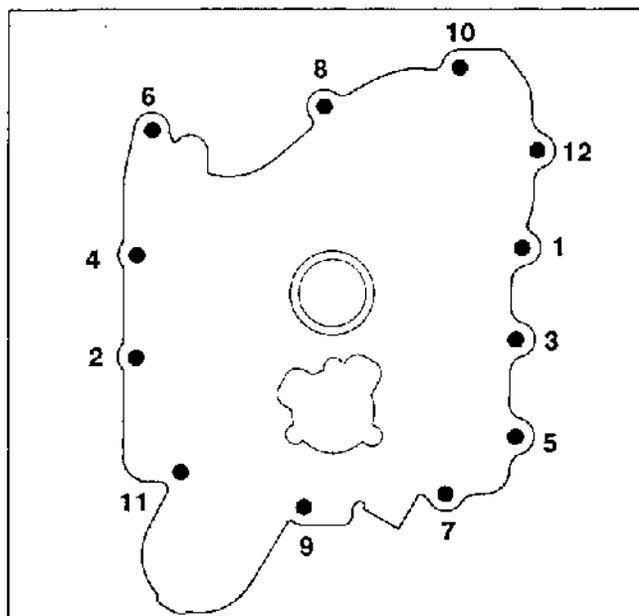

Figure 11-17. Closure Plate Fastener Torque Pattern.
4. Torque the fasteners, in the sequence shown in Figure 11-17 to **24.4 N·m (216 lbf·in)**.